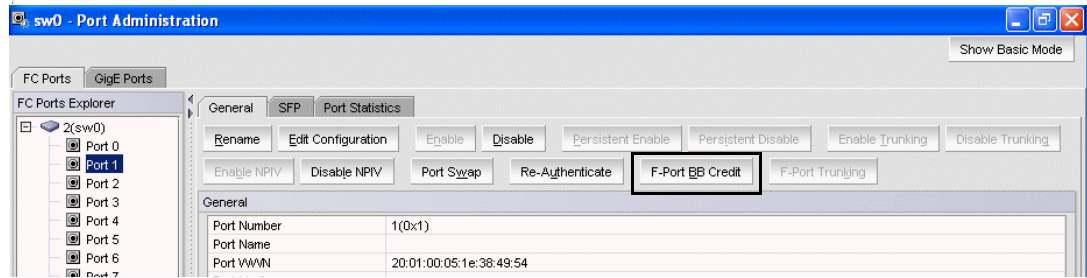

FIGURE 32 F-Port BB Credit button
4. Click **F-Port BB Credit** as shown in Figure 32.